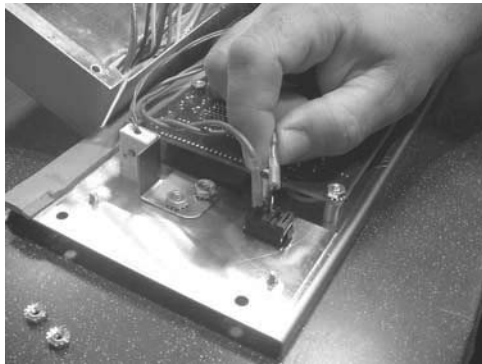

Figure 3-11
4. Pull wires from switch and check across the 2 terminals for continuity. Figure 3-11. With switch in ON position, the circuit should be closed. In the OFF position, the circuit should be open. If the switch is defective, continue with step 5.